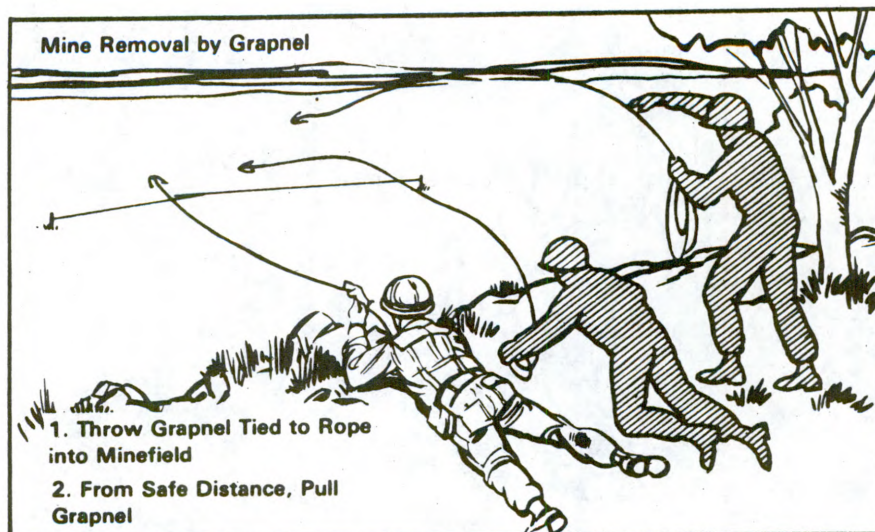

Figure 1
2. Use of Grapnels (fig. 1). This is the safest method of destroying tripwire- or tilt rod-fused mines.